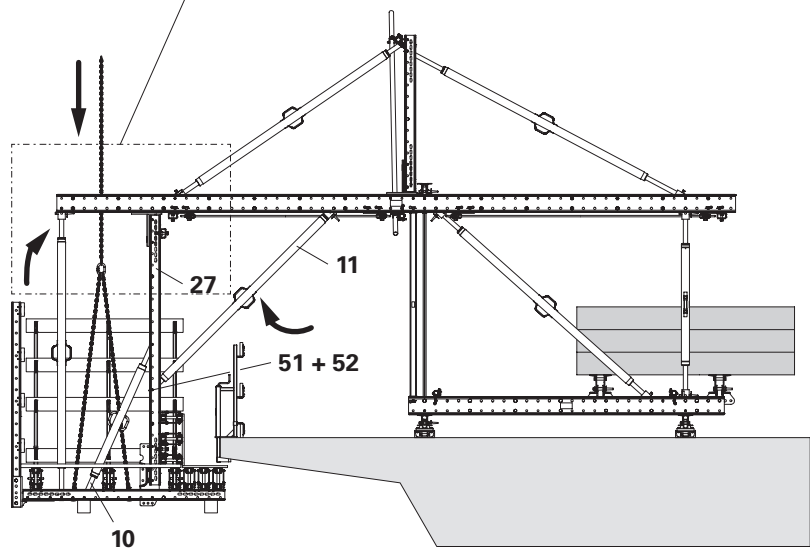

Fig. C3.02
5. Complete the platform planking of the concreting platform. (Fig. C3.02)